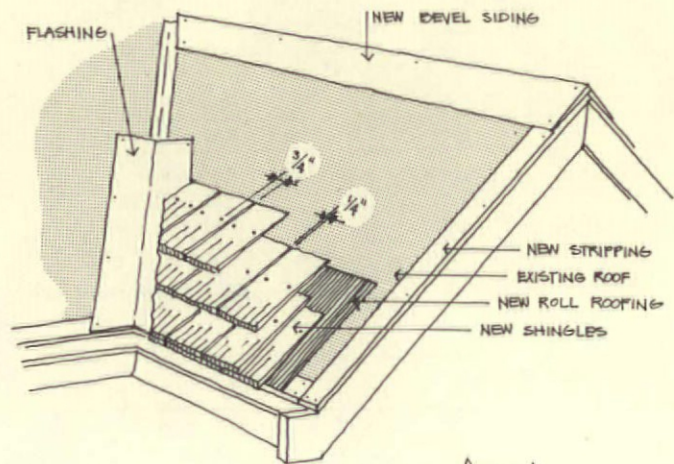

Figure 1
**NEXT, THE EXISTING RIDGE** covering must be taken off and replaced with a strip of bevel siding on either side, with the butt edges overlapping at the peak. This step precludes the formation of a mound of roofing material at the ridge where roofing is applied in extra layers. (See figure 1)